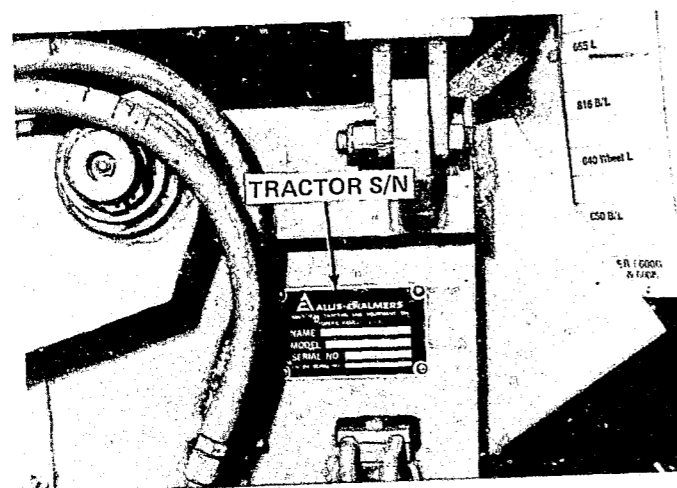

Figure 1
- The model number is also stamped into a metal plate which is riveted to the bottom side of the instrument panel. (See Figure 1)